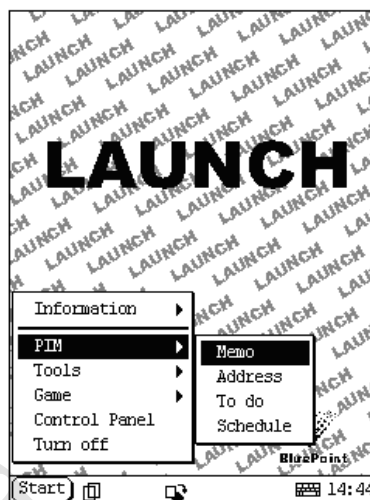

Figure 4-18
- 3) Select the function needed in the pop-up list. See Figure 4-18.